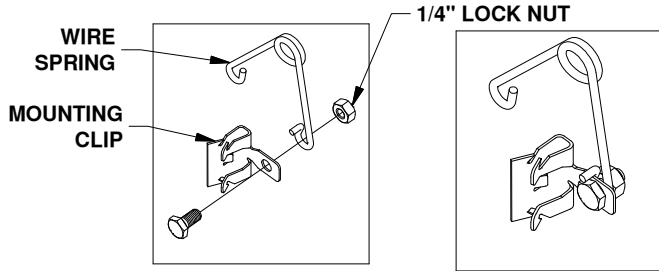

**FIGURE A2:** Passenger pivot arm mounting location.
2. Locate both pivot arms, the four threaded blocks, eight 1/2" cap screws, and eight 1/2" split lock washers. Place the lock washers over the cap screws. Align the flat side of the pivot arm flat against the bolt plate and install four 1/2" cap screws through the holes on the arm, holding the arm in place, as shown in Figure A2. Locate the threaded blocks. Note that the sides of the block have threaded holes on one side and smooth bored holes on the other side. When installing the threaded blocks it is critical that the side with the smooth holes is flat against the bolt plate when installed. It is also critical that each of the five holes in the threaded block match up with the five vertical holes in the bolt plate. Pass the threaded block under the base and align the block with each set of screws and start each screw, as shown in Figure A2. After all the screws are started through the arms, torque each bolt to 80 ft-lbs.